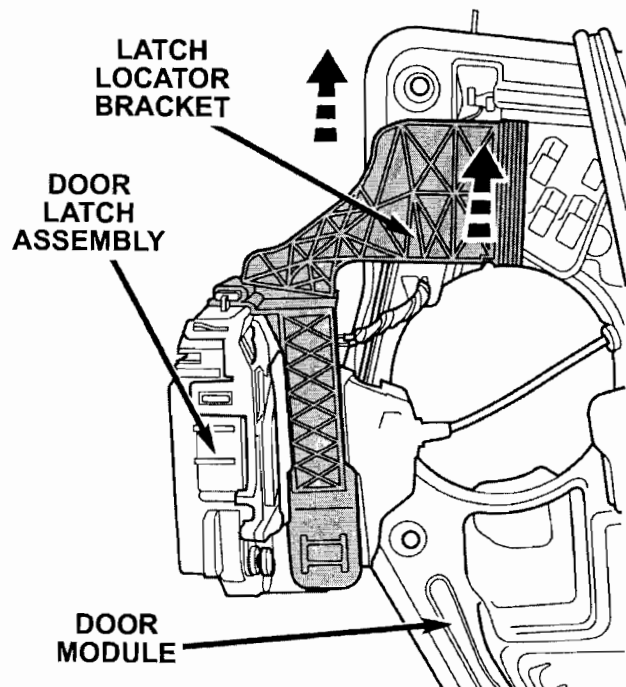

Figure 6 – View from Inside the Door
16. Push upward on the latch locator bracket and latch assembly to separate the bracket and latch from the door module (Figure 6).